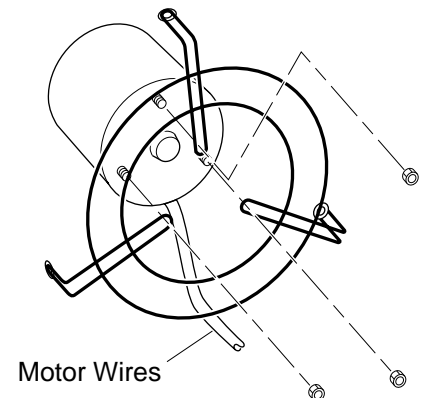

Figure 9 - Removing or Attaching Fan Guard from Motor
8. Use nut driver to remove three nuts that attach fan guard to motor. Remove fan guard from motor (see Figure 9).